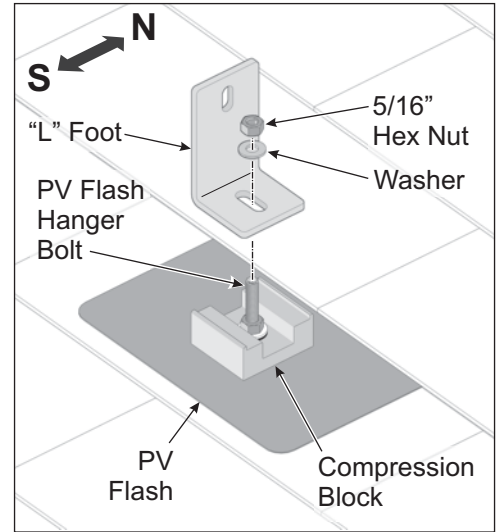

Figure 1-1: Attaching “L” foot to the PV Flash
- B. Secure “L” foot with 5/16” flat washer and hex nut. **Torque to 14-16 ft.-lbs.** (See Figure 1-1)